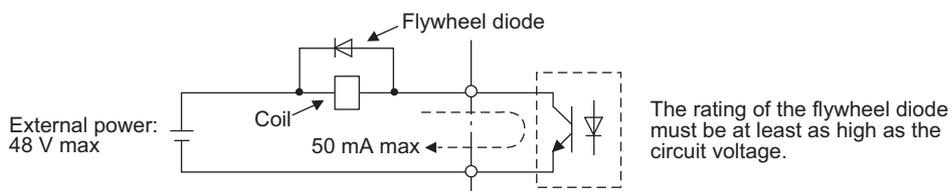

Fig 2.18 Flywheel Diode Connection
- * 2. When driving a reactive load such as a relay coil, always insert a flywheel diode as shown in Fig 2.18.